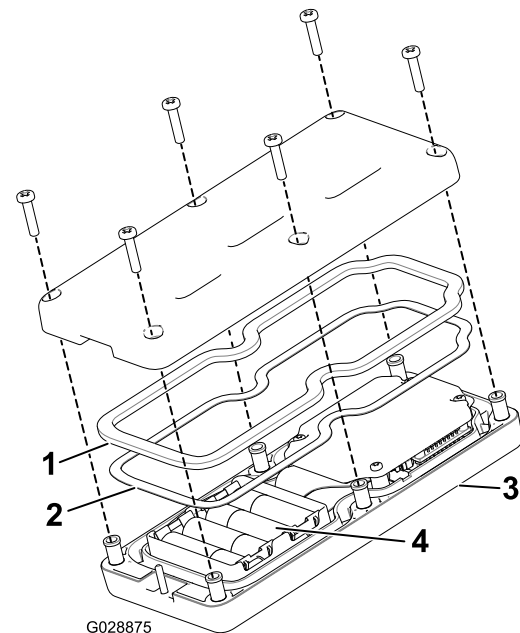

Figure 46
3. Remove the 6 screws from the back of the remote and remove the cover (Figure 46).
5. Install the batteries into the terminal cradle observing proper polarity. The cradle is embossed with polarity markings for each terminal (Figure 46).
6. If you accidentally removed the rubber seal and the steel gasket, replace them carefully into the channel in the handheld remote (Figure 46).
7. Replace the cover and secure it with the 6 screws removed previously (Figure 46) and torque them to 1.5 to 1.7 N·m (13 to 15 in-lb).